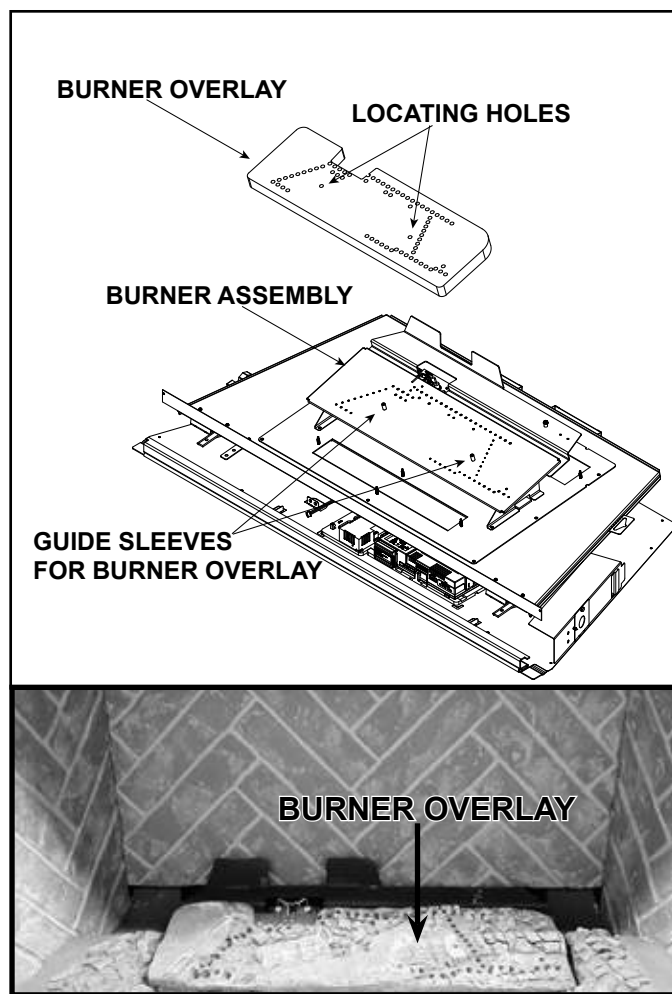

Figure 11.25 Burner Overlay Installed
3. To install the burner overlay, mate the locating holes with the guide sleeves. Install fiber burner top so that it makes full contact with the underlying burner assembly. See Figure 11.25.